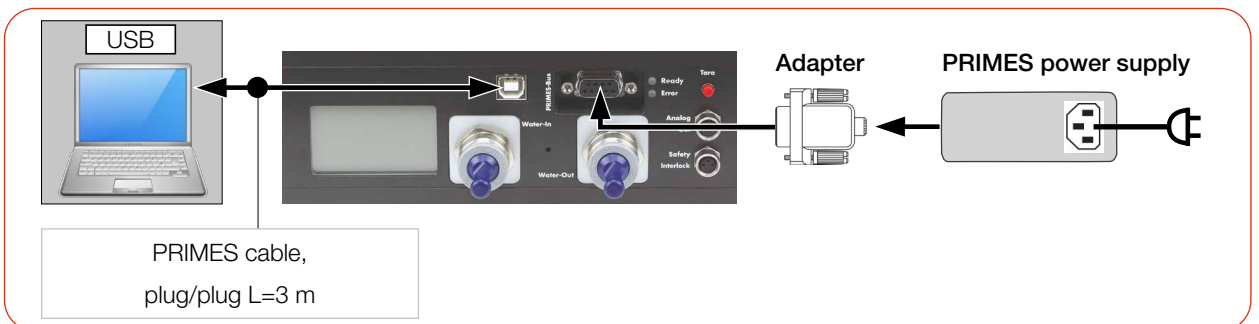

Fig. 7.5: Power supply via USB or PRIMES power supply, data transfer via USB
- Connect the cables according to Fig. 7.5 on page 31.